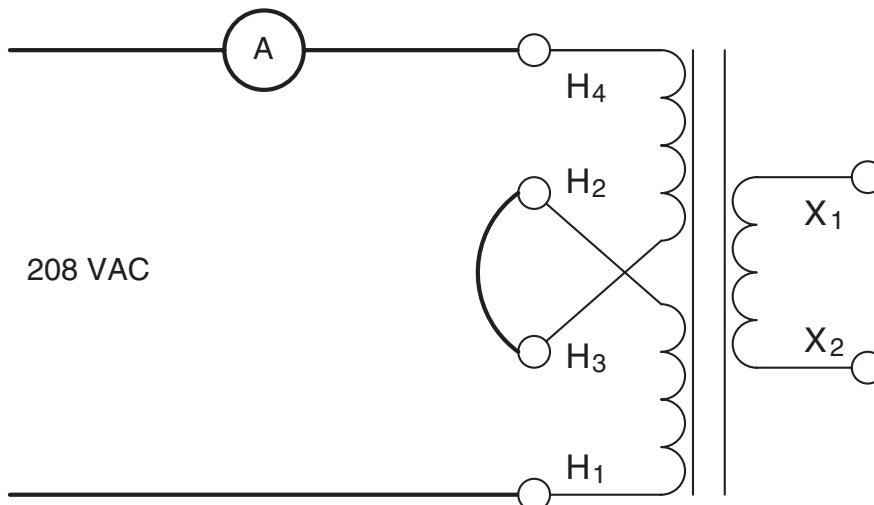

Figure 22-6 Connecting the high-voltage windings as an autotransformer.
1. Series connect the two high-voltage windings by connecting terminals H_2 and H_3 together. The H_1 and H_4 terminals will be connected to a source of 208 VAC. Connect an ammeter in series with one of the power supply lines, as shown in Figure 22-6.